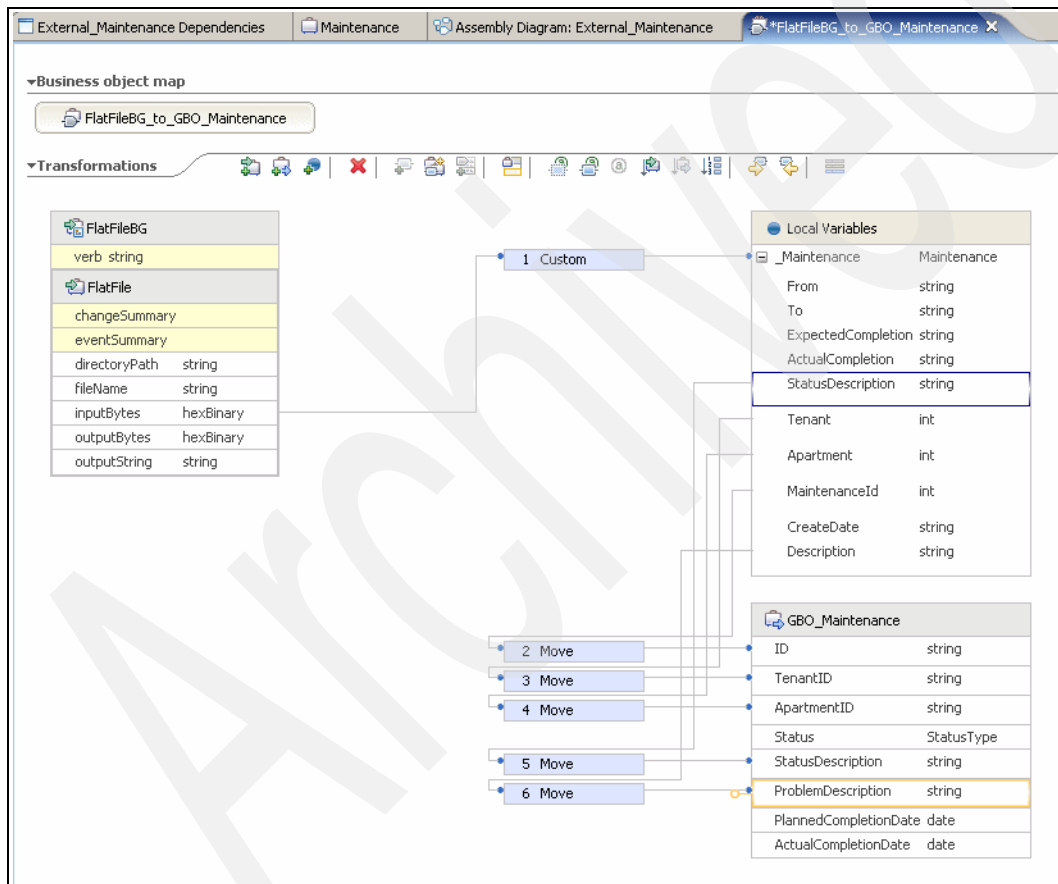

Figure 3-19 Move transformations
21. Create the *move* transformations shown in Figure 3-19.